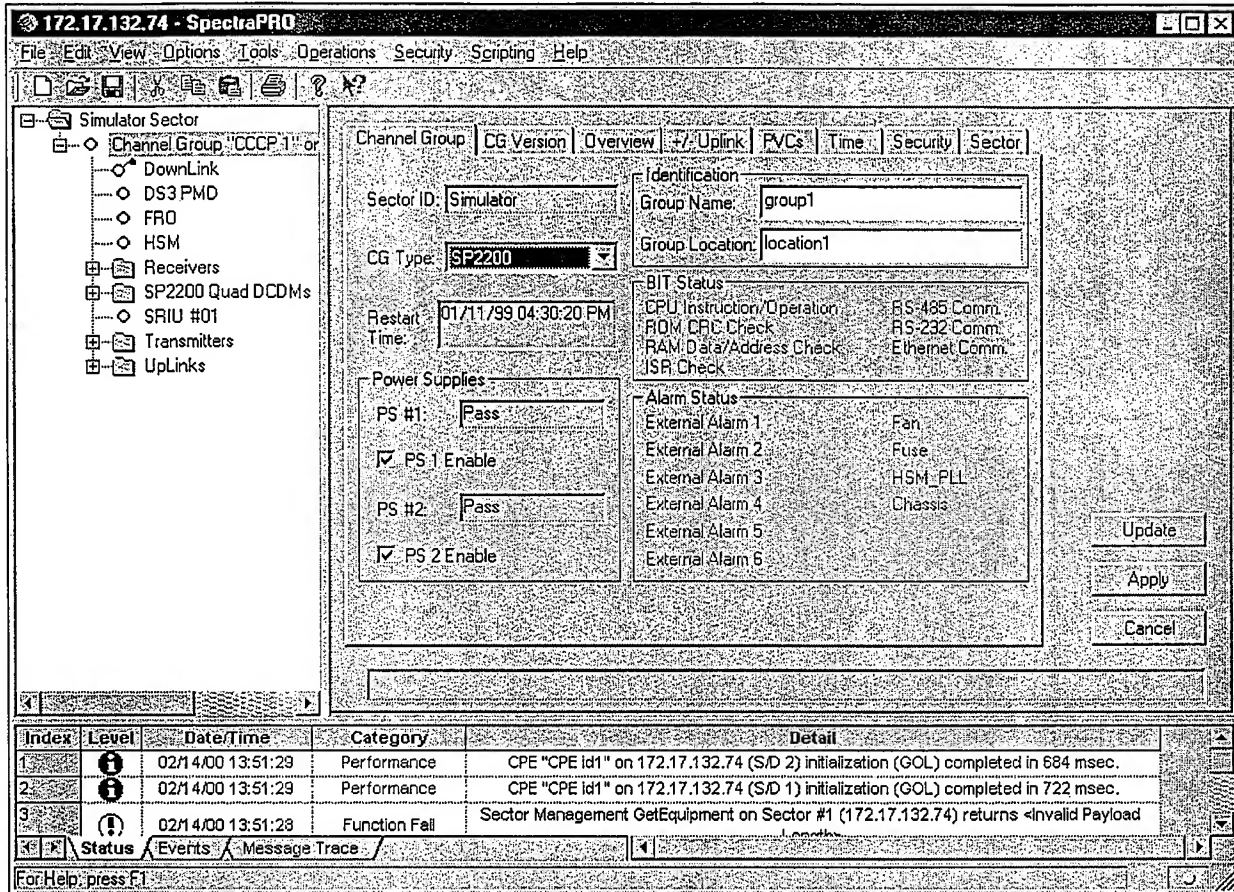

Figure 6. SpectraPRO Main BCG Window
6. The SpectraPRO screen displays the Main Window for the selected Channel Group (see Figure 6). The default Channel Group tab is displayed. You are now logged in to the Base Channel Group.
1. In the Channel Group Main window Channel Group tab (see Figure 6), enter or set the parameters according to the Installation Worksheet. The following parameters are required.